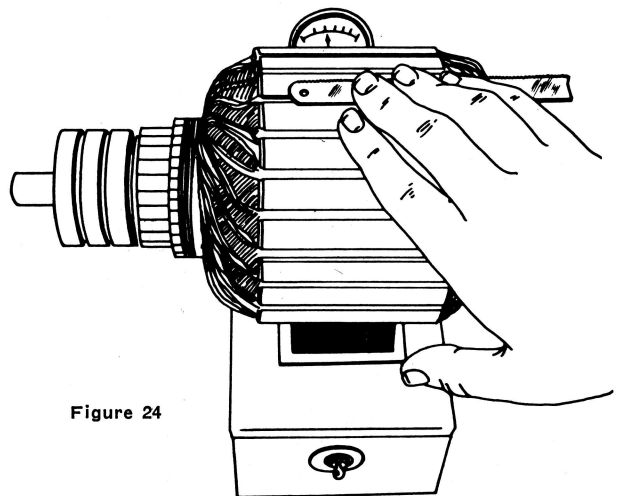

Figure 24
f. If these tests have not located the trouble, remove the armature and have it tested for opens, shorts, and grounds on a growler (see Figure 24).
d. If after making these tests you still get no A.C. voltage at the brush terminals, the A.C. portion of the armature must be defective. See "Maintenance" on Page 10 for removing and testing the armature. A growler such as is shown in Figure 24 can be used for analyzing armature defects. The same equipment and procedure as is used for testing D.C. generator and motor armatures also applies to these armatures.